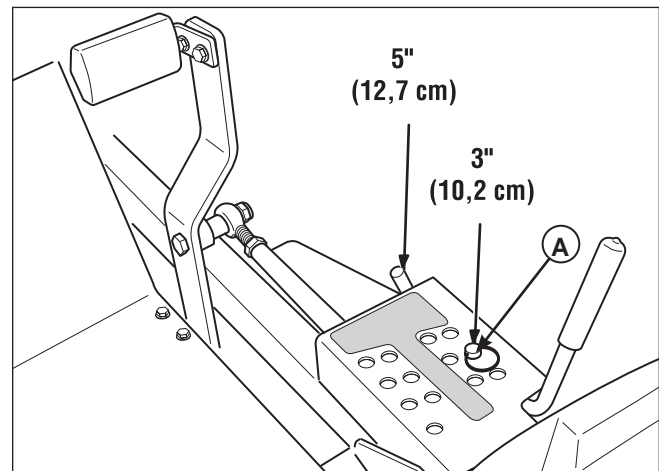

Figure 41. Deck Lift Pedal & Pin Position
1. Lock the deck lift pedal in the 5" (12,7cm) position. Remove the height adjustment pin (A, Figure 41) and lower the mower deck.